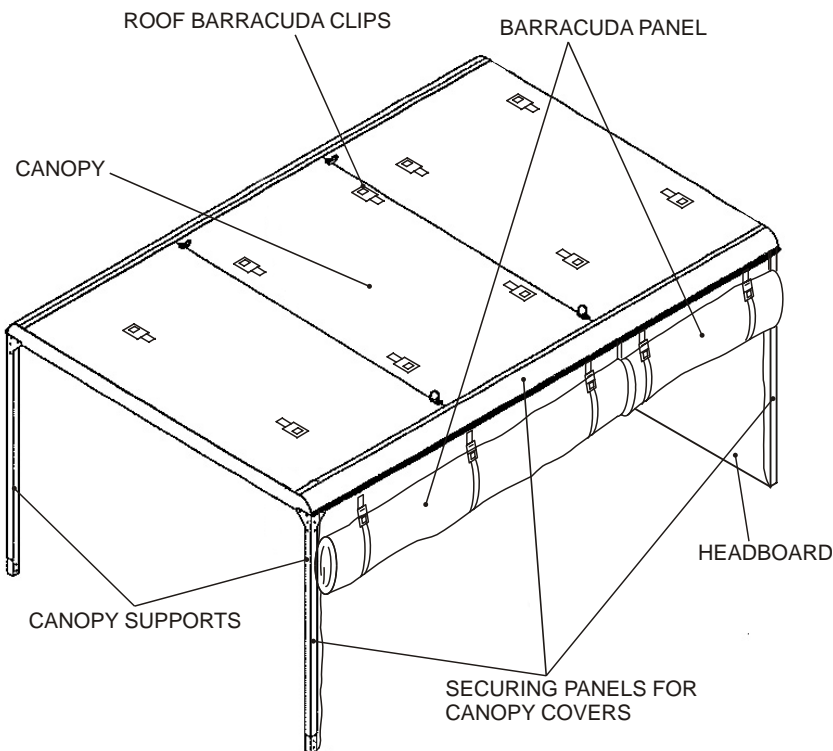

Figure 6 Canopy Assembly
8. The canopy assembly comprises of a roof assembly and two roof supports (Figure 6). The front of the canopy assembly is supported by the headboard assembly and the rear of the canopy is supported by the two supports. The roof assembly comprises of a series of support beams welded to form the roof shape and covered by three roof plates. Four tie down points allow for equipment to be secured on the top of the canopy. Three roll down barracuda panels are attached to the canopy for weather protection. Securing clips allow these panels to be either be rolled up to the top of the canopy or be rolled up and positioned on the top of the canopy.